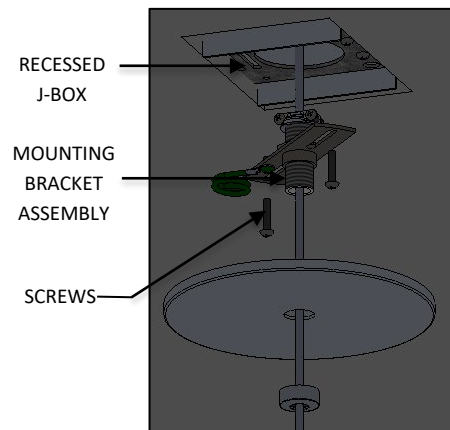

FIG. 29 – FINIAL ASSEMBLY
- Raise MOUNTING BRACKET ASSEMBLY up to RECESSED JUNCTION BOX, and secure with the MOUNTING BRACKET SCREWS as shown in FIG.29.